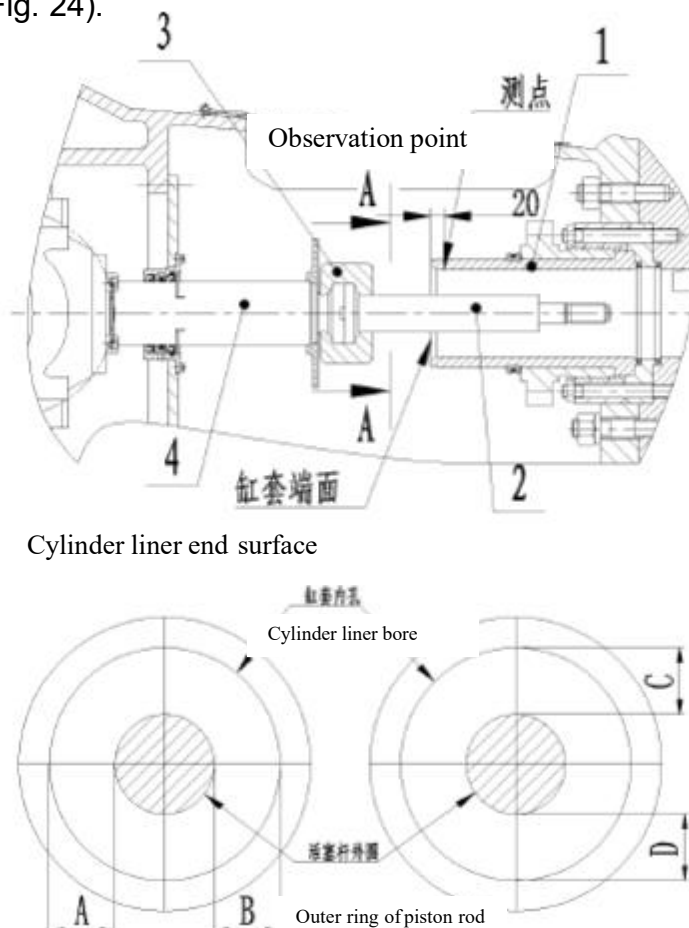

Fig. 24 Concentricity Measurement Diagram
1) Dismantle the end cover from cylinder liner and piston-nut, piston, spray pipe and hose clamp from piston rod, while clamp assembly is still used to connect piston rod and pony rod intently (Fig. 24).